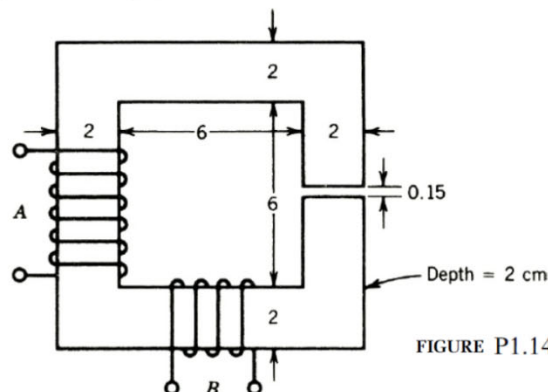

FIGURE P1.14.
- 1.14** An inductor is made of two coils, A and B, having 350 and 150 turns, respectively. The coils are wound on a cast steel core and in directions as shown in Fig. P1.14. The two coils are connected *in series* to a dc voltage.